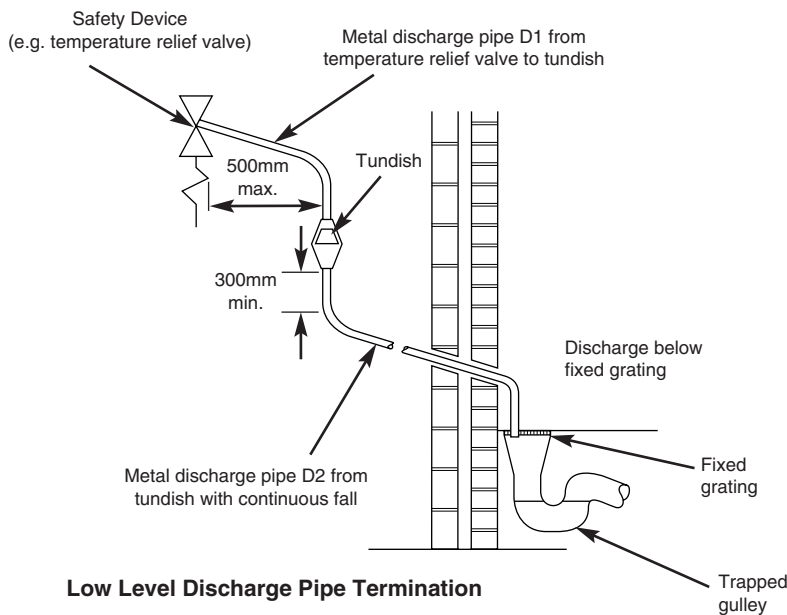

Fig. 24a
12. See Figs. 24a and 24b for typical discharge pipe terminations.